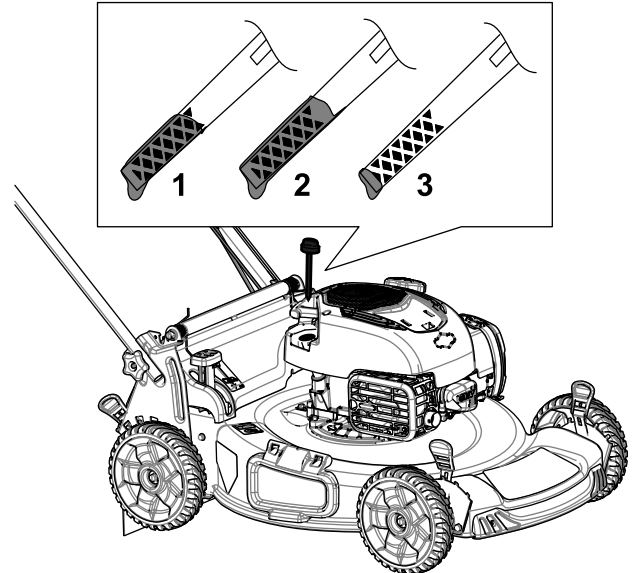

Figure 11
2. Remove the dipstick by rotating the cap counterclockwise and pulling it out (Figure 11).
5. Read the oil level on the dipstick (Figure 11).
- If the oil level on the dipstick is too low (Figure 11), carefully pour a small amount of SAE 30 or SAE 10W-30 detergent oil into the oil-fill tube, wait 3 minutes, and repeat steps 3 through 5 until the oil on the dipstick is at the correct level. For the oil type, refer to Changing the Engine Oil \(page 18\).
- If the oil level on the dipstick is too high (Figure 11), drain the excess oil until the oil on the dipstick is at the correct level; refer to Changing the Engine Oil \(page 18\).